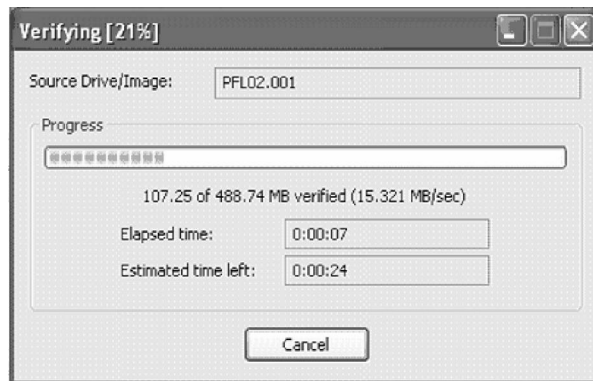

Figure 25 – Image Capture Verify Screen
19. If the “Verify Data. . .” checkbox was checked before cloning, FTK™ will verify the data that was copied. This process takes significantly less time than capturing. See Figure 25 below.